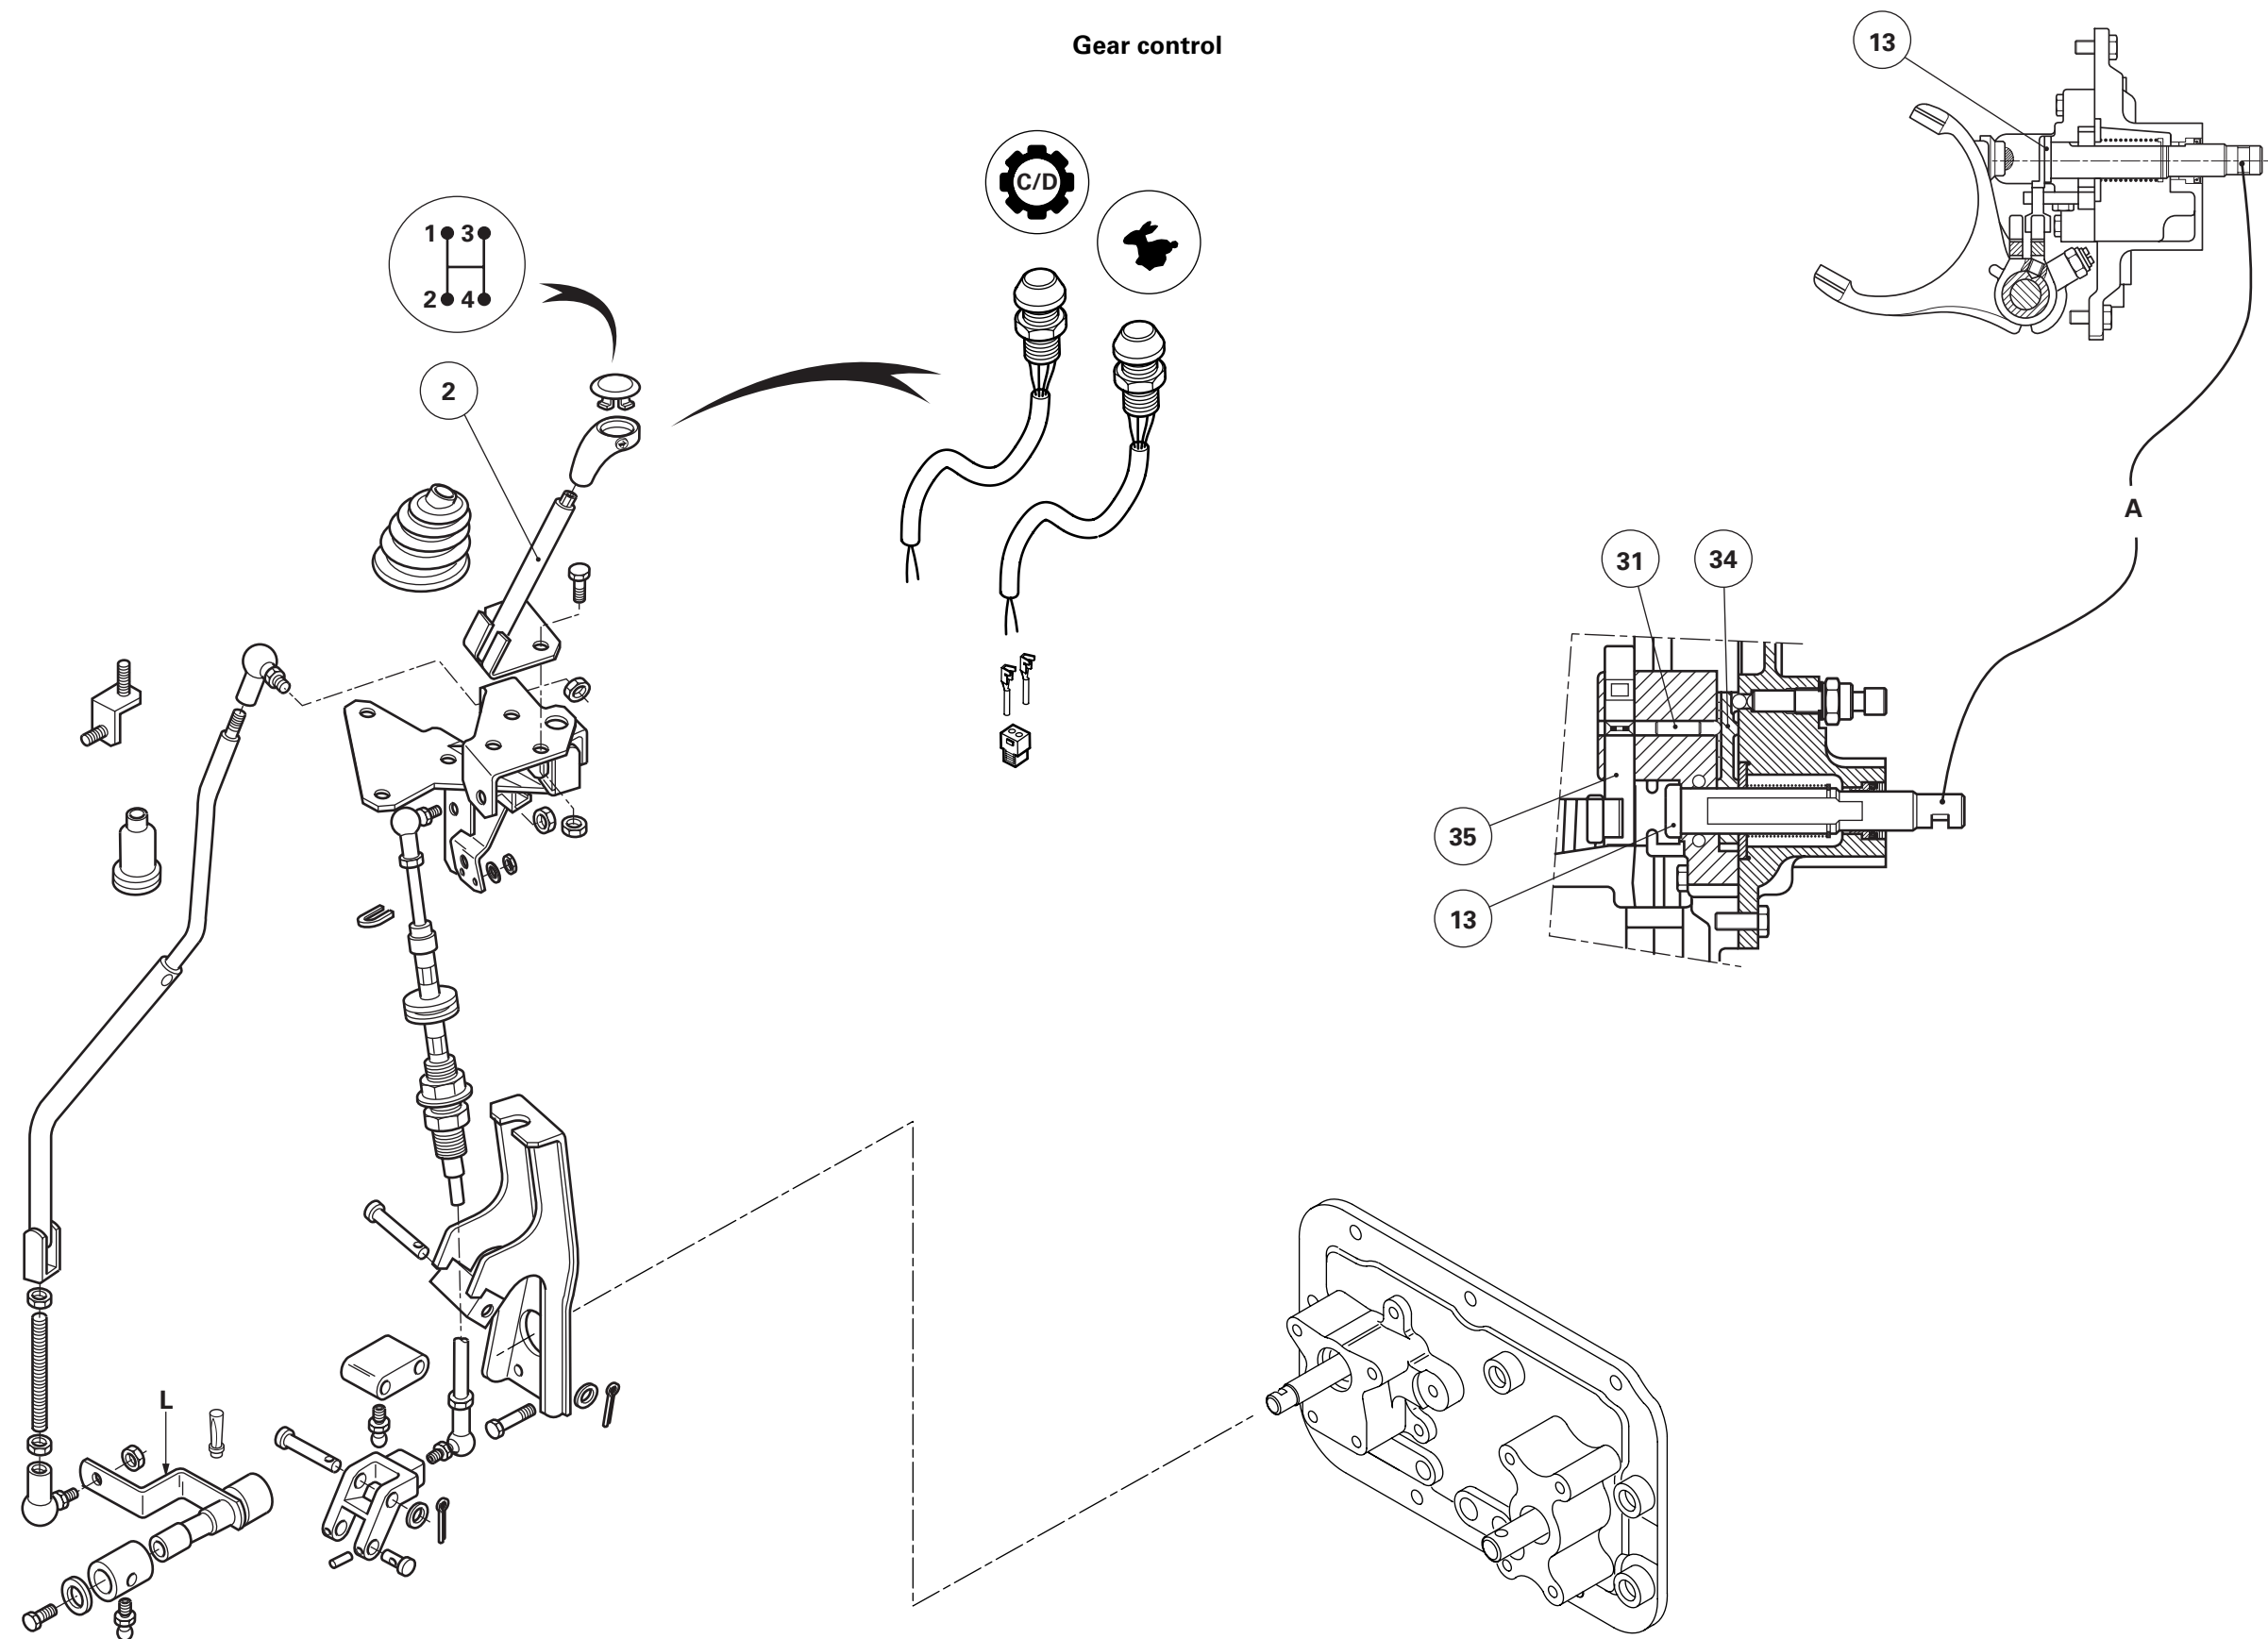

Fig. 4
Parts list (Fig. 4)
Transmission lever (Fig. 4)
The first ratio is obtained by moving lever L upwards and the second ratio downwards (Fig. 4). Simultaneously, the toggle switch (34) secured to pin A pivots and moves the plunger (31) thus locking the indexing rod (35) and the Hare/Tortoise fork.
When the pulse switch (Fig. 4) is activated again, the solenoid valve is closed, and the pressure drops in chamber "a" (Fig. 6). The piston (1) moves back due to the 17 bar pressure exerted on the annular face.
This is one of the main elements of the Hare / Tortoise range locking system. It is freely mounted on pin A (Fig. 4) and pivots with it by means of a flat section.